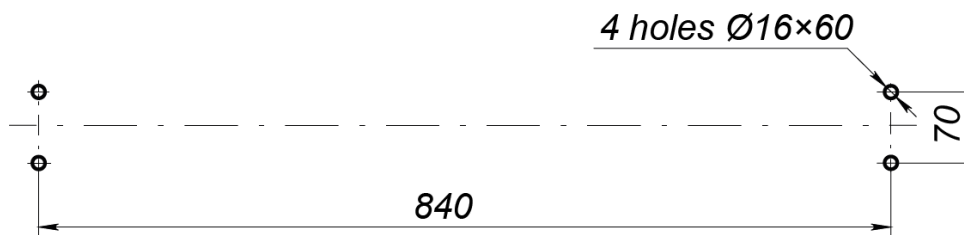

Figure 5. Installation holes for the MB-16R railing
³ Distance between holes for fixing the main section to the extension section is shown on Fig. 5.
2. Mark out the installation holes on the mounting surface as per Figure 5.